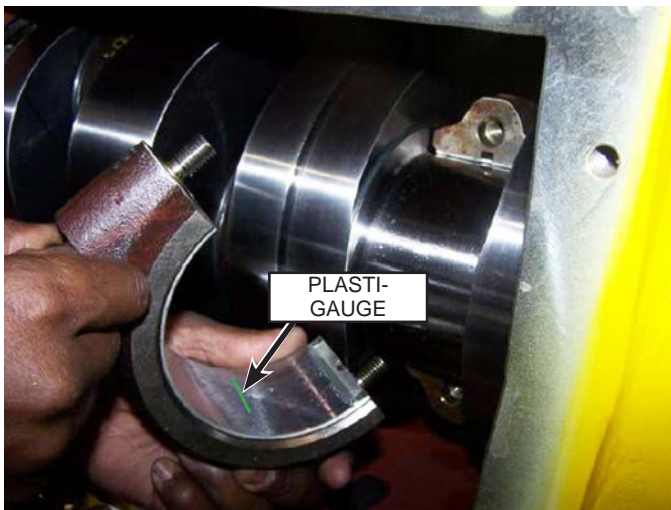

Fig. 137: Plasti-Gauge Installation
2. Install a small strip of plasti-gauge onto the end cap bearing (as shown in Fig. 137).